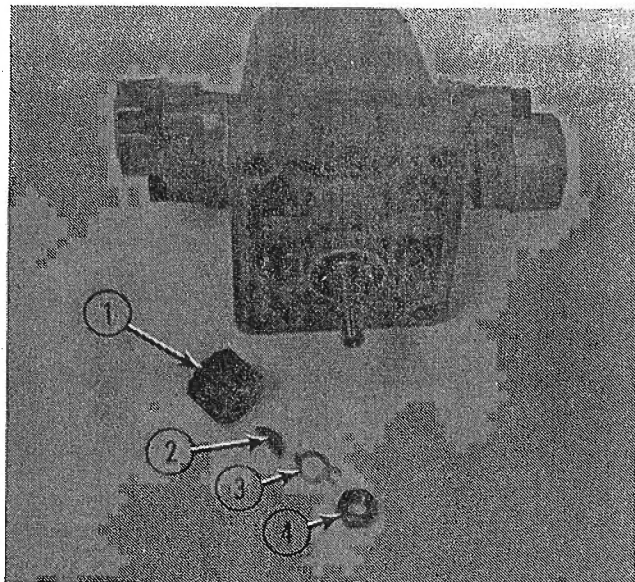

FIG. 4
Figure 4 shows the drive hub removed from the pump shaft with related parts.
- (1, Fig. 4) Drive Hub
- (2, Fig. 4) Woodruff Key
- (3, Fig. 4) Locking Washer
- (4, Fig. 4) 6 mm. Hex Nut
(4, Fig. 4)